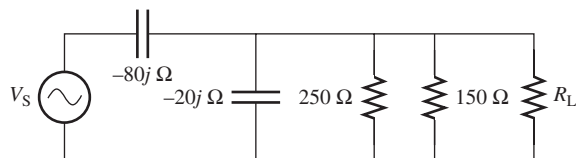

FIGURE P6.50 Circuit for Problem 6.50.
- 6.50 (B)* What are the Thévenin/Norton equivalent resistance observed by R_L for the circuit shown in Figure P6.50? Provide the answer to two decimal places.